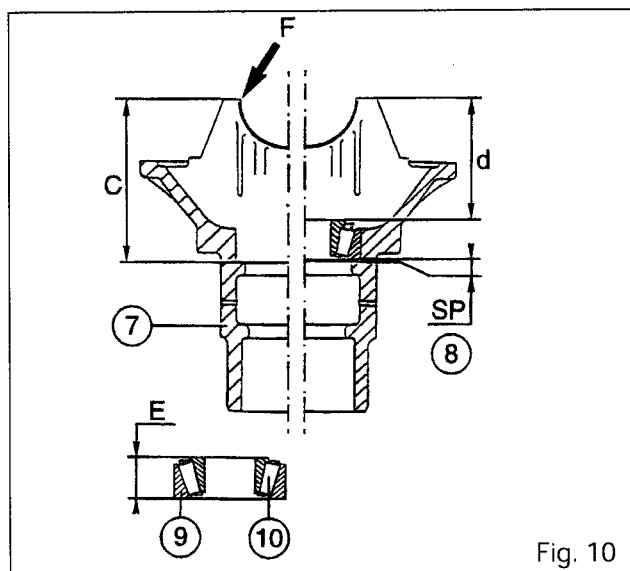

Fig. 10
**Note:** If it should prove necessary to replace the crownwheel (27) or the drive pinion (39), these two parts should both be replaced together. The parts are paired as indicated by a number marked on the front face of the drive pinion and on the crownwheel.
38. Adjust the position of the drive pinion (Fig. 10). The thickness of the shims required to position the drive pinion correctly is calculated using the following formula: